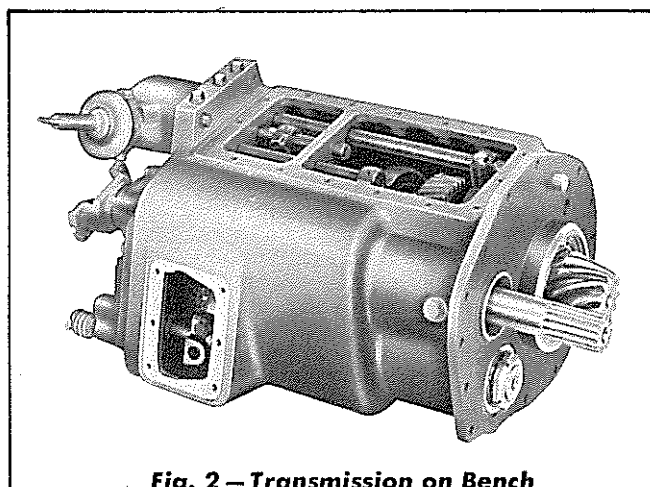

Fig. 2 – Transmission on Bench
2. Place the transmission on a clean work bench with the right side up and the cover removed as shown in Fig. 2.
4. Loosen the clamp screws and the "Allen" set screws used to secure the shifting forks to the shifting shafts, then loosen the interlock spring capscrews and remove the lower of the three (3) shifting shafts from the case. Be sure to catch the three (3) steel balls which will drop from position when the shaft is removed. Remove the shifting fork from the slot in the shifting collar.
5. Remove the center shifting shaft and interlock pin from the transmission case, catching the four (4) steel balls which will drop from position when this shaft is removed. Remove the shifting fork from the slot in the shifting collar.
6. Remove the upper shifting shaft from the transmission case, catching the one (1) steel ball which will drop from position when this shaft is removed. Remove the remaining shifting fork from the bottom (pinion) shaft. *NOTE: The three (3) shifting forks are identical but the shifting shafts differ and must be installed in their correct positions when reassembling the transmission.*
13. The rear gear cluster (1st reverse and 1st and 2nd forward) may now be removed if desired by following the disassembly procedure as outlined in item 12 above. However, it is suggested that the rear gear cluster be left in the transmission case until the top and intermediate shafts have been removed. The cluster can then be removed as an assembly.
14. Again turn the transmission on the bench so that the right side of transmission faces upward as in Fig. 2. Remove the rear (universal joint) yoke and the retainer from the front of the top shaft and the sleeve locking screw from the bearing retaining sleeve at the rear end of the top shaft. Remove the retaining sleeve and shims from the transmission case.
15. Drive the top shaft toward the rear until the shaft is free of the front bearing spacing sleeve and front roller bearing, then pull the shaft out of the transmission case and remove the three (3) gears, three (3) spacing sleeves, and the spacer from the case.
18. Loosen the clamp bolt on the high-low shifting fork and remove the two (2) capscrews securing the upper interlock housing to the transmission case, then remove the interlock
- a. Place the transmission case on a bench as shown in Fig. 2.
- e. NOTE: On early model tractors, the low range gear (35 teeth) contained a bushing and on later model tractors the bushing in this gear was discontinued. This gear in the later model tractors is assembled in position on the low range gear hub on two (2) roller bearings.